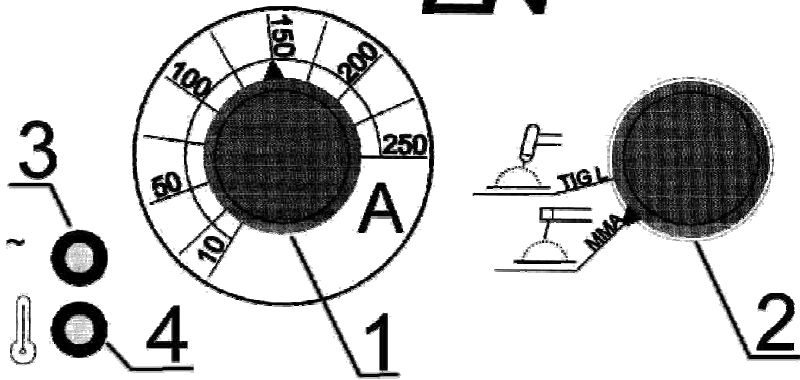

Figure 1
ENEL250AC welding machine is an inverter direct current source operating in the frequency range above the audio frequency. This current source is characterised by good dynamics and a smooth and stable arc. It is lightweight, of small dimensions, resistant to large fluctuations of the mains voltage. The connecting, control and indicating elements are located on the front panel. On the rear panel there are: power switch, power cord, fan and rating plate. Control elements of the welder are shown in Fig. 1. The welding machine has smooth adjustment of the welding current (knob (1) (Fig. 1)) within the range from 10 to 250A.
There are two operation modes available to select with switch (2) (Fig. 1):
- 1) **welding with coated electrodes (MMA)** - the switch (2) should indicate the icon
The main switch of welding machine (green) is located on the rear panel - backlight of the key indicates that the power cord is connected to the 3 phase mains. After the welding machine is turned on, the green indicator (3) (Fig. 1) lights up. The welder has a protection against loss of one of supply phases - in the case of phase loss the indicator (3) (Fig. 1) goes out and the power module is turned off.
A welder has a thermal protection to protect certain components against excessive overheating. Activation of this protection is indicated by the lamp (4) (Fig. 1) shining yellow.
4. Select the operation mode with button (2) (Fig. 1)
- 2) Turn on the power switch at position ON (ZAL). Then the indicator (3) (Fig. 1) should illuminate indicating that the rectifier is ready for operation. The cooling fan should turn on immediately.
- 3) Set the switch (2) in the position marked with MMA welding icon.
- 4) Fit an electrode in the electrode holder and set welding current suitable for a specific electrode using the potentiometer (1) (Fig. 1).
- 6) If during welding, the rectifier has been overloaded by exceeding the permitted duty cycle of 60% at currents given in Table 1, the temperature limiter can operate. This cuts-off the welding current and lights up the indicator (4) (Fig. 1). In such case wait until this indicator turns off, and then you can continue the welding.
- 4) Set the switch (2) (Fig. 1) in the position marked with TIG welding icon.
- 8) If during welding, the rectifier has been overloaded by exceeding the permitted duty cycle of 60% at currents given in Table 1, the temperature limiter can operate. This cuts-off the welding current and lights up the indicator (4) (Fig. 1). In such case wait until this indicator turns off, and then you can continue the welding.